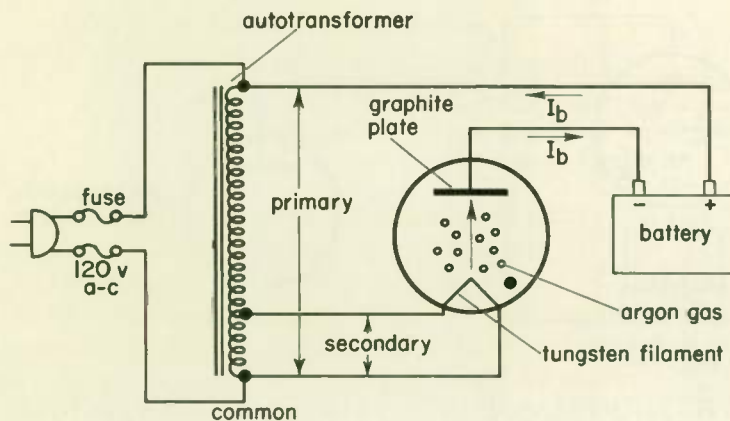

Fig. 22 The tungar rectifier in use as a battery charger.
The tungar rectigon rectifier is commonly used for charging batteries. Figure 22 shows a typical circuit for a battery charger. A single-coil
transformer, called an autotransformer, is utilized. The entire coil serves as the primary, to which the 120 volts a-c (ordinary line potential) is applied. The lower section of the coil is tapped off, as shown in Fig. 22, to the desired filament voltage. During the positive half-cycle of the input line voltage, the tube conducts in the direction indicated by the arrows. Since this tube can pass large values of I_b , it is a very effective battery charger.
Refer to the circuit of Fig. 22.
2. Assume you are going to charge a battery with the circuit of Fig. 22. You find that the fuse burns out each time the circuit is closed. What could be wrong with the battery?